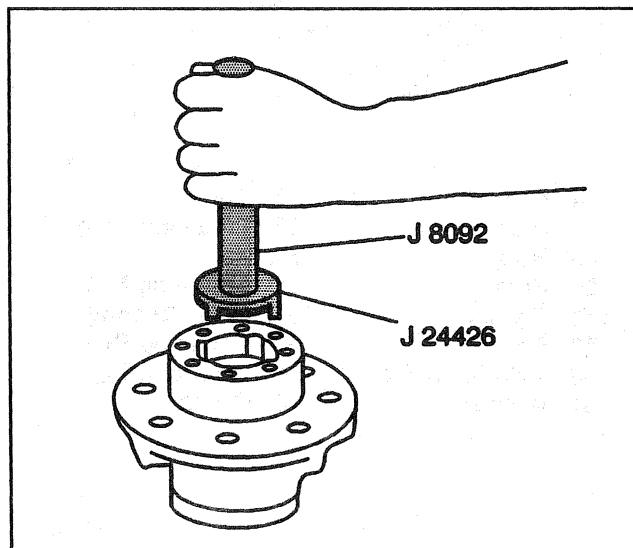

Figure 23—Removing or Installing the Outer Bearing Cup
6. Outer bearing using J 8092 with J 24426 (Figure 23).
Install or Connect (Figure 23)